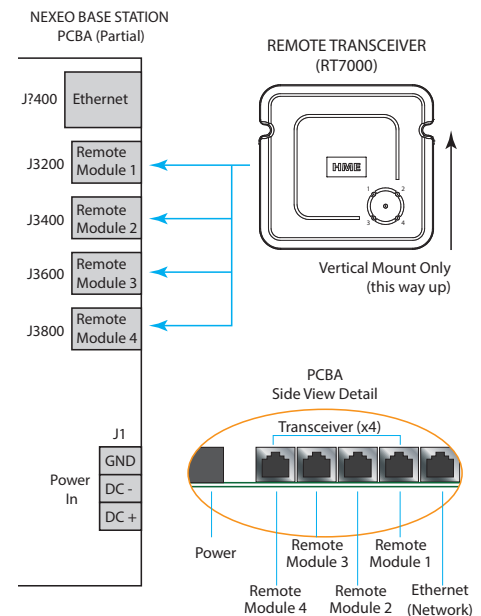

Fig. 4.4
- Mount the transceiver vertically on a wall in the upright position (see Fig. 4.4 and orientation arrow on the RT7000 rear). Do **NOT** mount horizontally such as on a ceiling, this will severely reduce the transceiver's range.